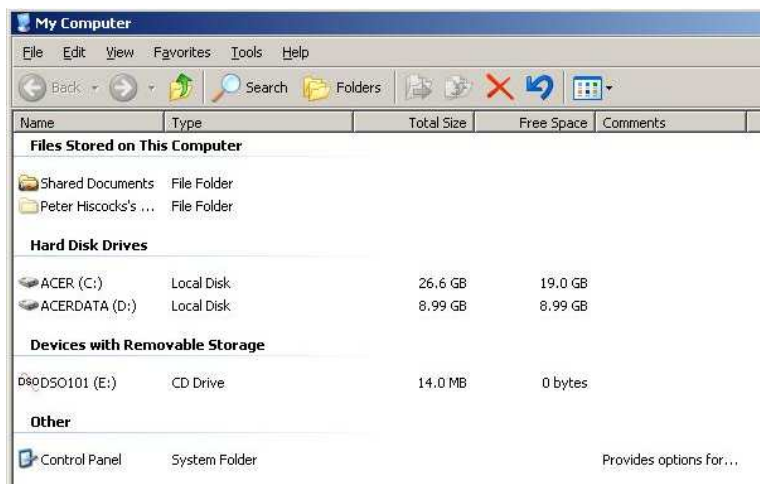

Figure 22: My Computer
1. Double click on `My Computer` to obtain a screen like figure 22.